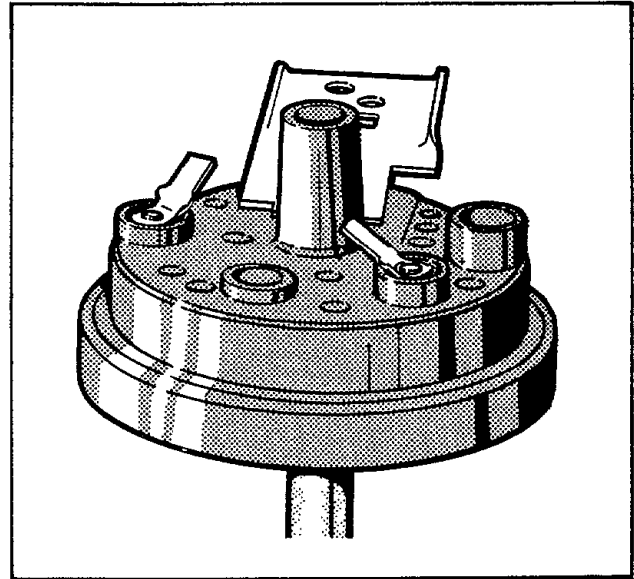

Figure 57
- 55. PRESSURE SWITCH** (Refer to Figure 57)